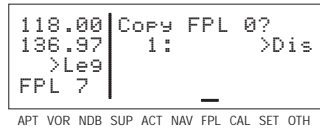

Figure 4-118
4. Press **ENT** to clear the flight plan (figure 4-118).
1. Select a numbered flight plan page which does not contain any waypoints (figure 4-118). If none exist, use the procedure described in section 4.9.6, "Deleting Flight Plans," to clear a flight plan which is no longer required.